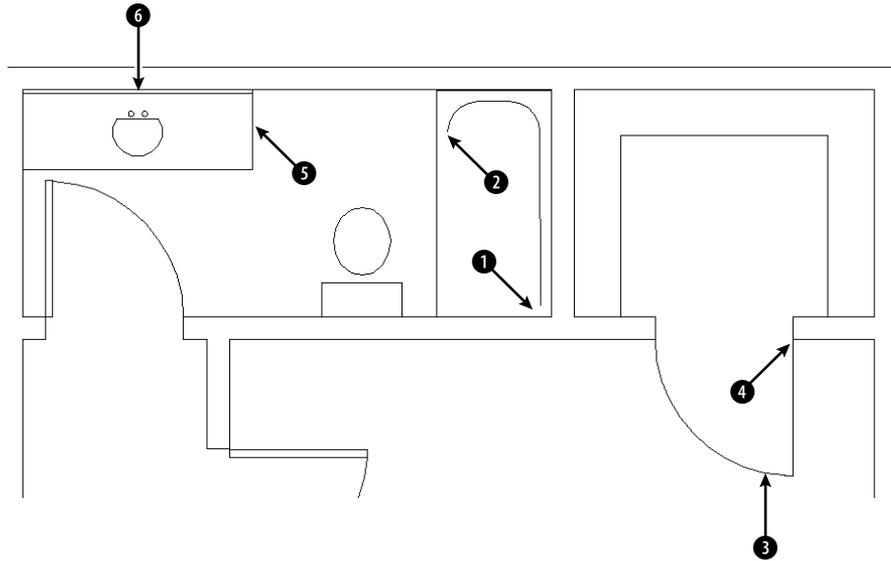

Figure 4-29: Using point filters to specify the start of a line.
4. At the Specify first point: prompt, pick the endpoint at ❶ in Figure 4-29.
5. At the Specify next point or [Undo]: prompt, type `.x ↵`. At the of prompt, pick the endpoint at ❷ in Figure 4-29.
6. You see the (need YZ): prompt. (Because you're drawing in 2D, you can ignore the Z.) Choose the endpoint at ❶ in Figure 4-29. AutoCAD or AutoCAD LT draws the line segment to the point defined by the X coordinate of ❷ and the Y coordinate of ❶.
9. At the `Specify next point or [Undo]:` prompt, type `.y ↵`. At the `of` prompt, pick the endpoint at **4** in Figure 4-29.